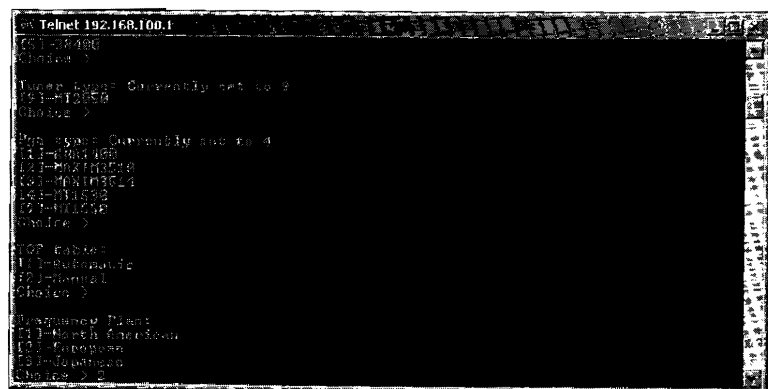

Figure 22-5: The production menu command **prodset** will allow you to change the modem's hardware parameters.
4. Execute the command **prodset** and change each parameter value as desired when prompted, or enter nothing to accept the default value (see Figure 22-5). At the end of the list, the menu will prompt you to save changes; type **w** to do so.